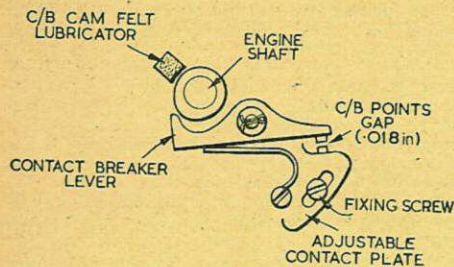

FIG. 1.—Contact-breaker assembly.
(1) **Ignition.** After the first 500 miles, and subsequently after every 1,500 miles running, check the contact-breaker points gap as follows: Remove magneto-cover. The contact-breaker is visible and accessible through one of the flywheel slotted-holes. Turn flywheel until the contact-lever is at highest position on cam. Loosen the adjustable contact-plate fixing-screw (see Fig. 1) enough to allow the contact-plate to move under pressure from a screw driver until the correct gap of .018in. is obtained. Securely tighten fixing-screw.